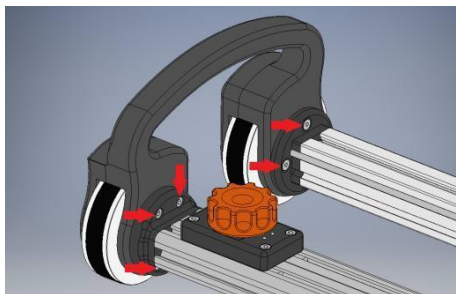

Figure 1
- 1) Loosen the 4 M4x10 FH screws and the 4 M4x12 SH screws that connect the Extrusion Assemblies to the Left Drive Section (Figure 1). Remove all but one of the top screws on each side.